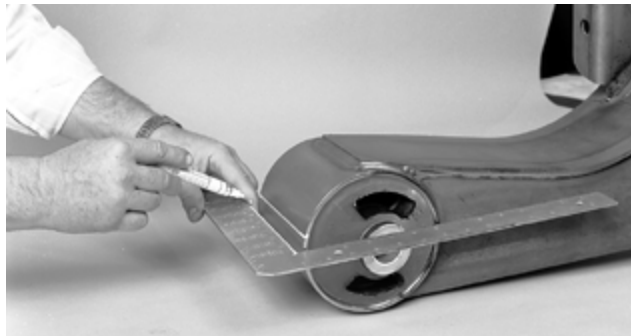

Figure 11: Marking bushing orientation on the bushing tube
2. Using a square and the bushing index mark as a reference point, **scribe or draw** a line on the outside of the bushing tube (Figure 11). This line marks the orientation of the existing bushing within the bushing tube and will be used to properly orient the replacement bushing during installation (Figure 12).